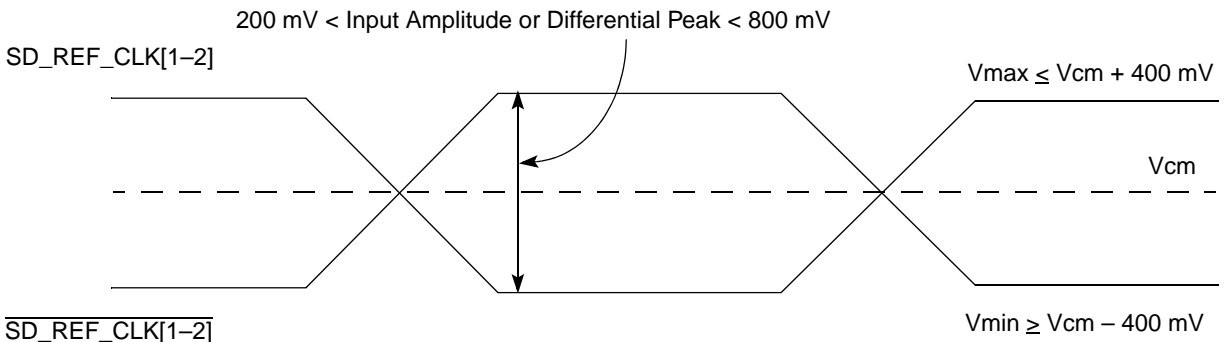

Figure 7. Differential Reference Clock Input DC Requirements (External AC-Coupled)
- For an external AC-coupled connection, there is no common mode voltage requirement for the clock driver. Because the external AC-coupling capacitor blocks the DC-level, the clock driver and the SerDes reference clock receiver operate in different command mode voltages. The SerDes reference clock receiver in this connection scheme has its common mode voltage set to GND_{SXC} . Each signal wire of the differential inputs is allowed to swing below and above the command mode voltage GND_{SXC} . Figure 7 shows the SerDes reference clock input requirement for AC-coupled connection scheme.